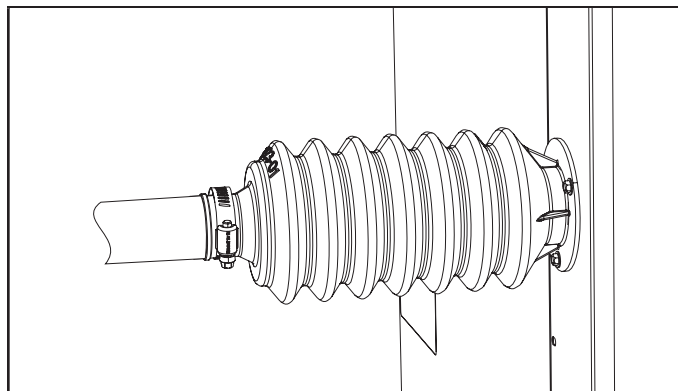

FIGURE 6. Band Clamp Installed on Sleeve
- 3 - Position the band clamp as shown in figure 6 and torque to 35 in-lbs to seal sleeve to line set.
- 2 - Position the band clamp as shown in figure 6 and torque to 35 in-lbs to seal sleeve to line set.